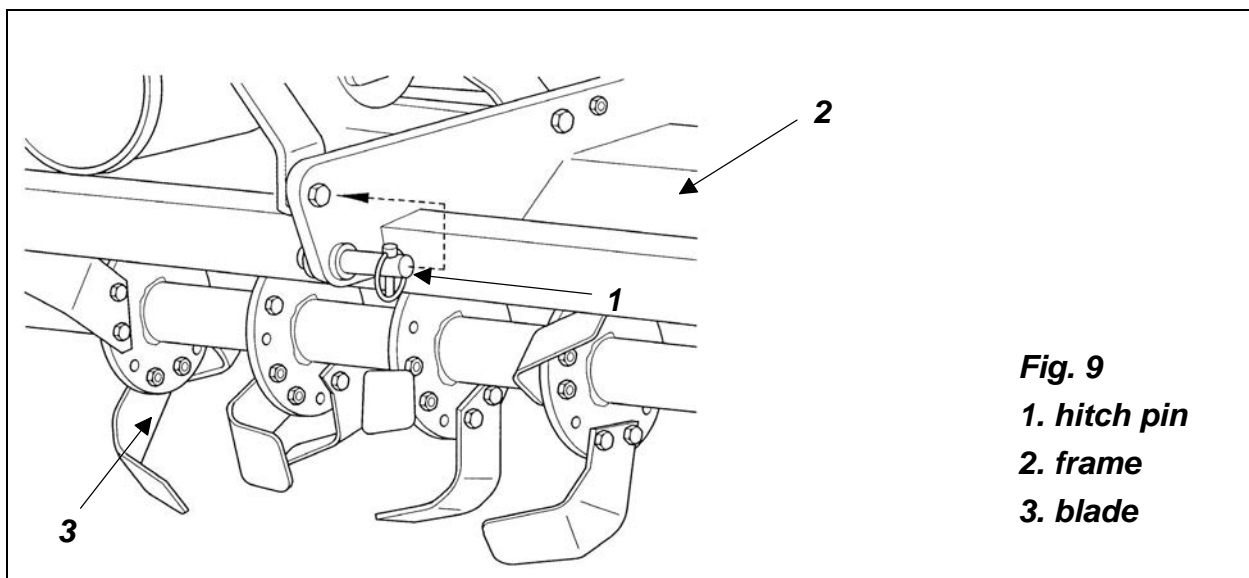

Fig. 9
2. The tiller hitch pin (**#1, fig. 9**) may be positioned in either the top or bottom hole, depending on driveline length and tractor size.